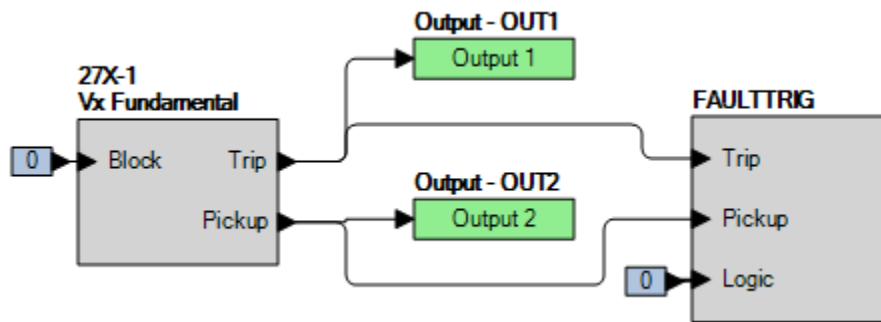

Figure 67-4. BESTlogicPlus Settings (Vx Fundamental Mode)
Step 2: Use BESTCOMSPPlus to configure the BESTlogicPlus programmable logic shown in Figure 67-4.
Step 4: Prepare to monitor the 27X-1 function operation. Operation can be verified by monitoring OUT2 (see Figure 67-4).
Step 2: Use *BESTCOMSPlus* to configure the *BESTlogicPlus* programmable logic shown in Figure 67-4.